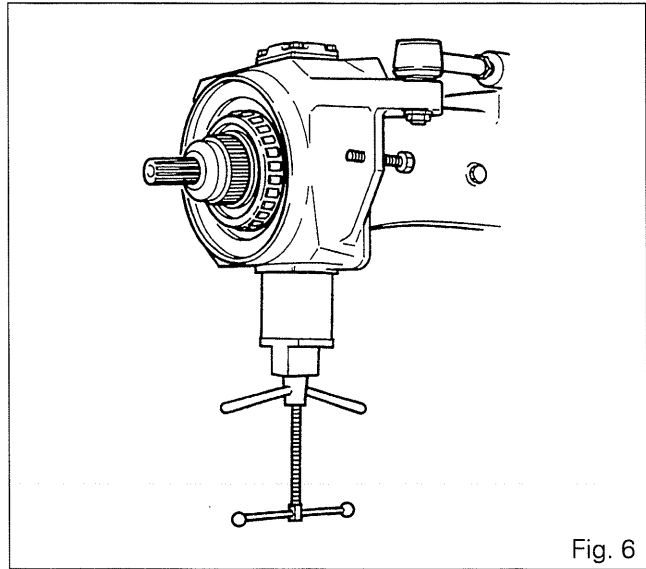

Fig. 6
54. Remove the bolts **(1)**. Remove the cover **(15)** and the bearing cup **(14)**. Pull swivel pin **(11)** (Fig. 6) out using puller MF 451B and extractor MF 451B3 (refer to section I).
55. Remove the bolts **(1)**. Remove the cover **(15)**, the shims **(3)** and the bearing cup **(4)**. Extract the swivel pin **(17)** as described above for the lower swivel pin (Fig. 6). If necessary, extract the bearing cones **(5)** **(13)** of the swivel pins.
**Note: The bush (31) is fitted with Loctite 270.**